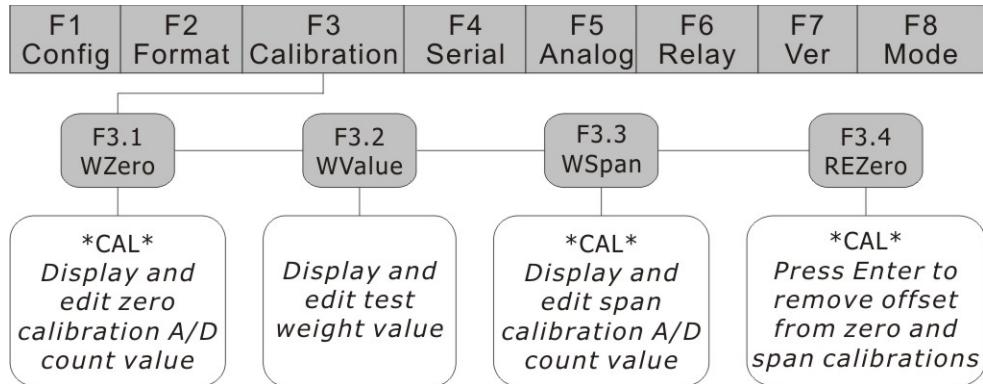

Fig.4-1 F3(Calibration) Menu
- 2) Press **【TARE】** until the display shows “F 3” (see Fig. 4-1). Press **【ZERO】** to go to zero calibration mode. Display shows “F 3.1”.